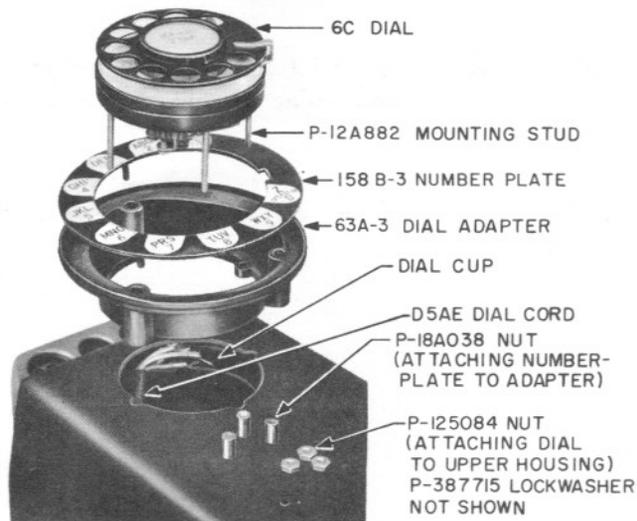

Fig. 6 - Assembly of 6-type Dial
4.02 All new coin collectors are equipped with 6-type dials. Shop-reissued coin collectors are equipped with 6-type dials when so specified by the telephone company. The assembly of a 6-type dial is shown in Fig. 6. The 63A adapter incorporates a coin-deflector feature to prevent dropped coins from lodging behind dial.